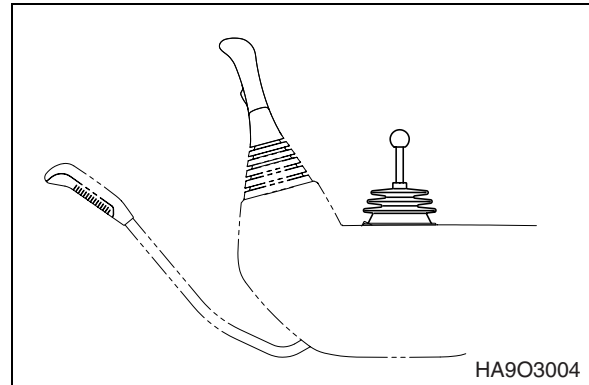

Figure 14
2. Run engine for approximately 5 minutes set at the middle of the speed range, without a load (Figure 14).